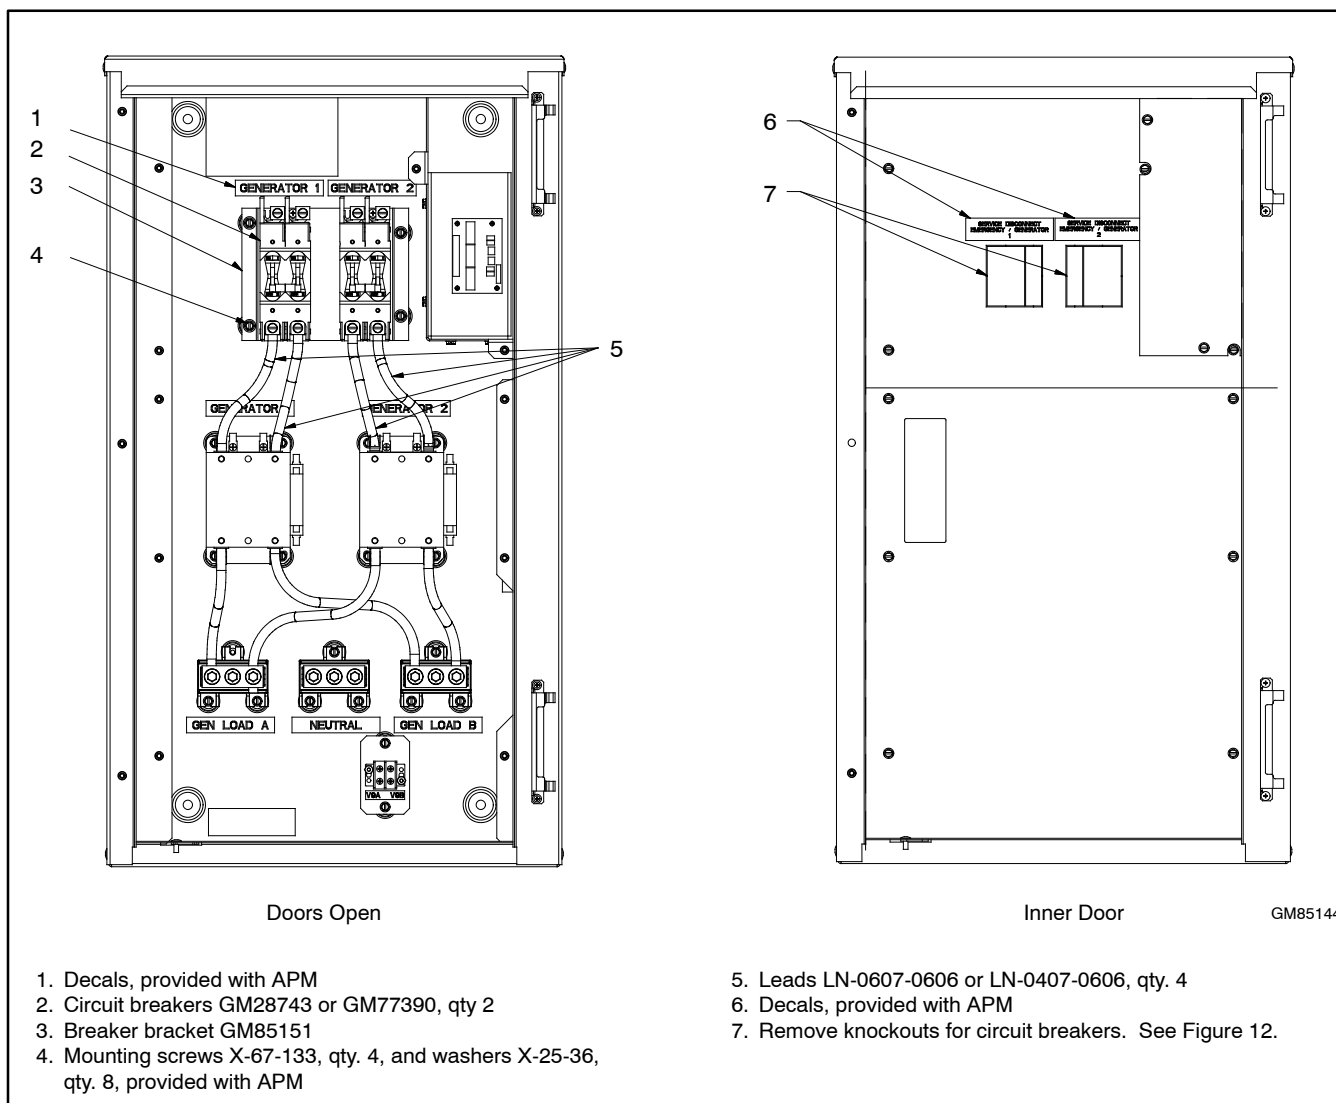
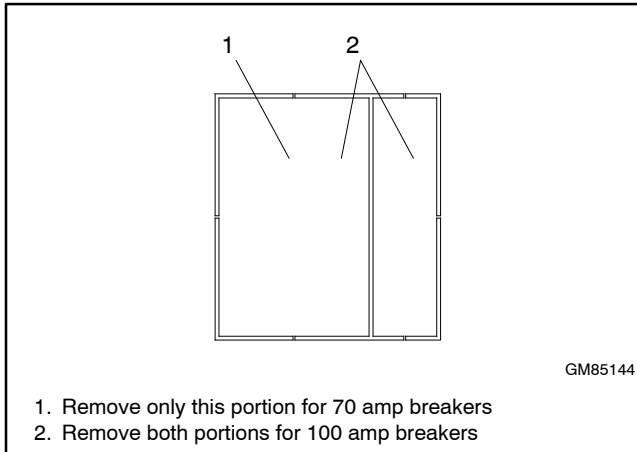
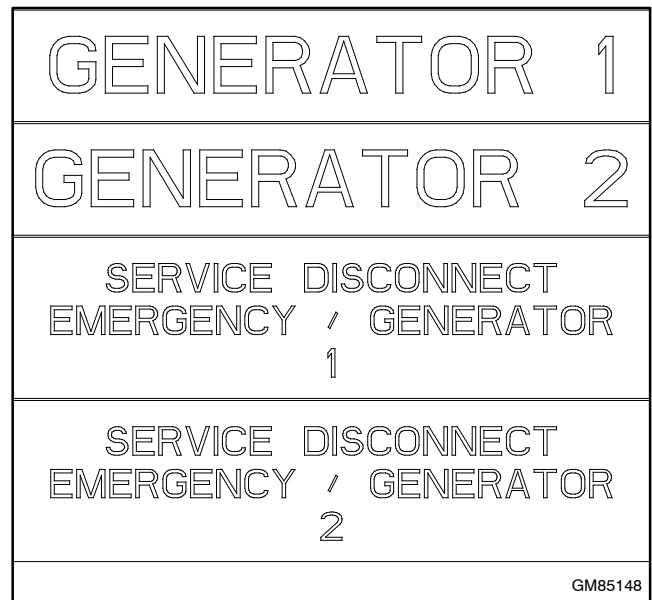
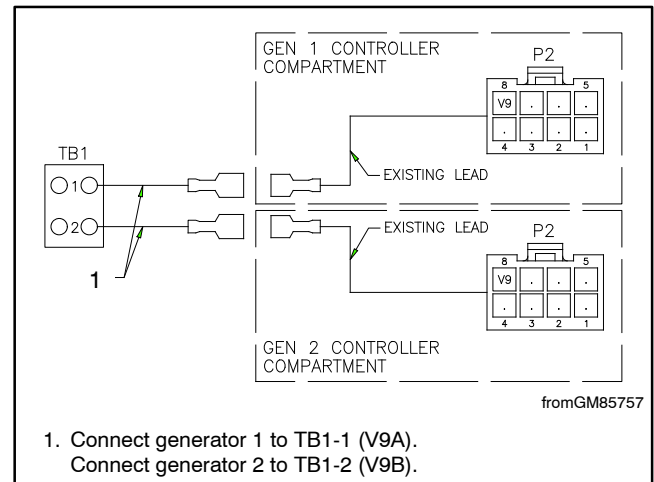

Figure 9 Circuit Breaker Kit Installation Inside the APM Enclosure
Figure 12 Circuit Breaker Knockouts
Figure 13 Decals provided with APM
Figure 14 Voltage Sensing Connections
- Remove the 4 existing screws X-67-133 and 8 existing washers X-25-36 from the back wall of the enclosure. See Figure 9. Save the screws; the washers can be discarded.
- b. Connect the circuit breakers to the APM contactors using 4 leads LN-0607-0606 provided with the circuit breaker kit. See Figure 9 and the wiring diagram in Section 8 for circuit breaker connections.
- d. Connect the circuit breakers to the APM contactors using 4 leads LN-0407-0606 provided with the circuit breaker kit. See Figure 9 and the wiring diagram in Section 8 for circuit breaker connections.
13. See Figure 9 and Figure 12. Carefully remove the knockouts for the circuit breakers in the inner cover of the enclosure:
14. The decals shown in Figure 13 are provided in the literature bag with the APM. Attach the GENERATOR 1 and GENERATOR 2 decals above the circuit breakers as shown in Figure 9.
15. Attach the Service Disconnect decals to the outside of the inner cover near the openings for the circuit breakers. Be sure to correctly label the breakers for Generator 1 and Generator 2. See Figure 13 and Figure 9.
4. Connect the voltage sensing leads from both adaptor harnesses installed in the generator compartment in step 5 to terminal block TB1 in the APM. See Figure 9 and Figure 14.
- Check the connection of the sensing wire to V9 on the generator wiring harness. See Figure 14.